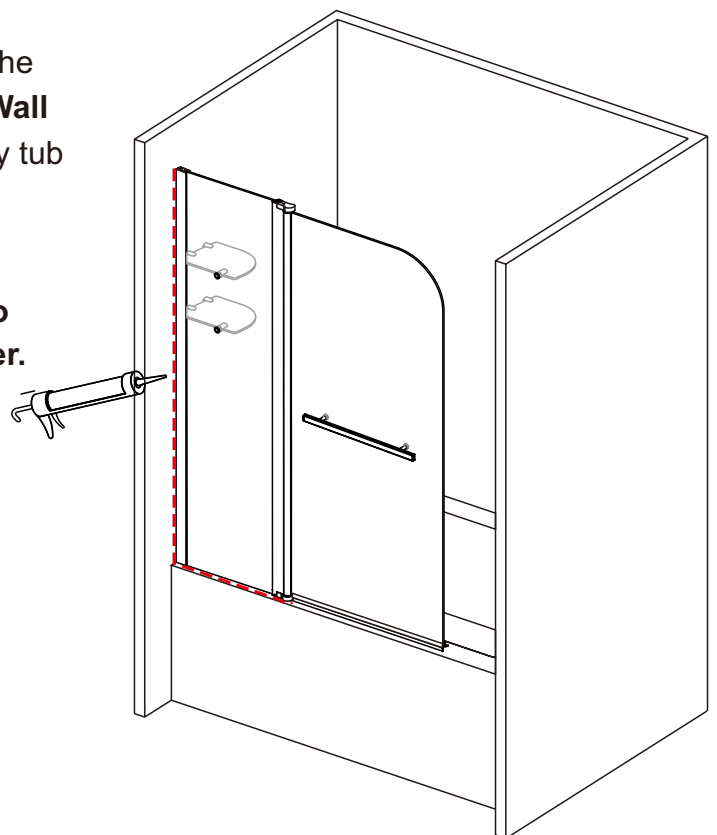

Fig 12
1. Apply a good quality Silicone Sealant at the outer corner formed by the wall and the **Wall Post [01]**, and the outer corner formed by tub deck and **Fixed Panel [04]** (Fig 12).